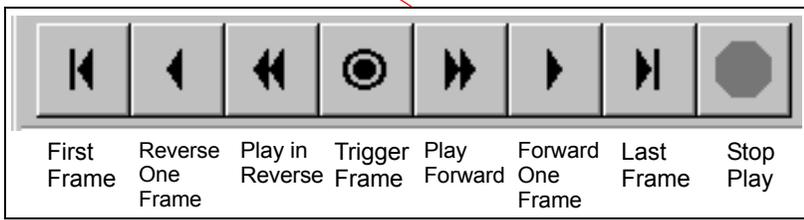

FIGURE 8-40. Snapshot Display Showing Two-Column Mode
Select the Upload from Handheld box in the center of the screen (Figure 8-40).
5. Click on the Upload from Hand-held icon from the toolbar (refer to Figure 8-40).